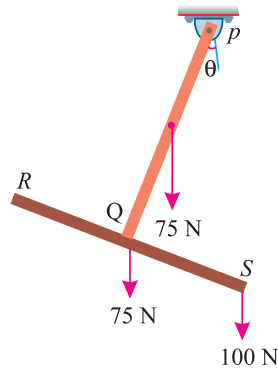

Fig. 3.10.
6. Two identical prismatic bars  $PQ$  and  $RS$  each weighing 75 N are welded together to form a Tee and are suspended in a vertical plane as shown in Fig. 3.10.